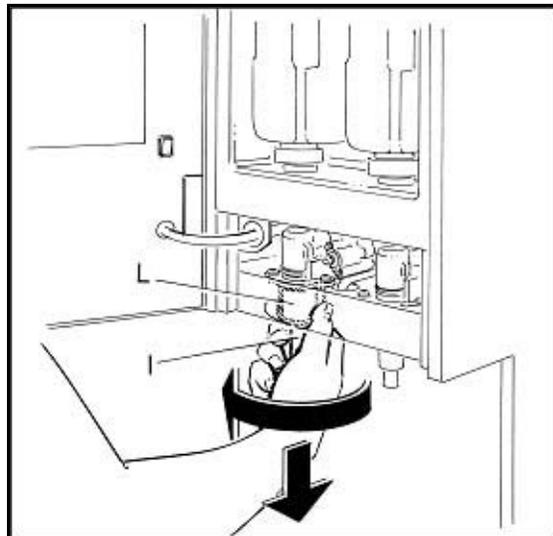

FIGURE 13
5. Remove the nozzle (I) by rotating ½ turn clockwise and pulling it straight downward, see FIGURE 13.